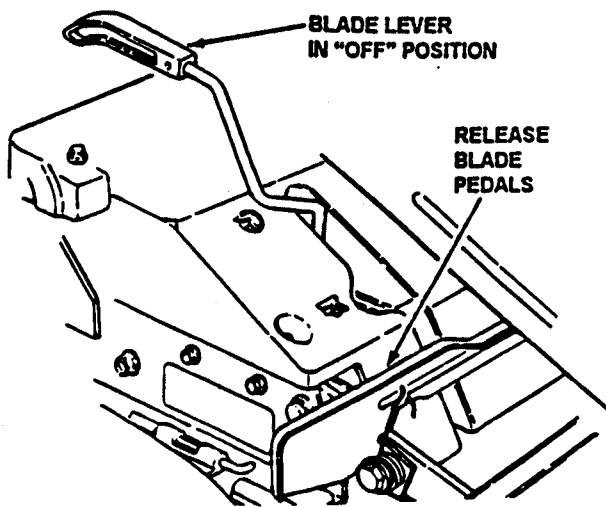
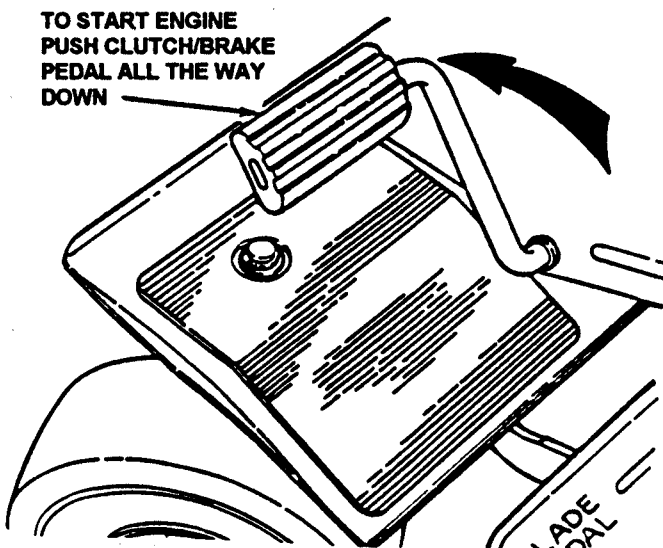

FIGURE 2.4
FIGURE 2.5
IMPORTANT: When the ignition key is turned to "START", the engine will turn over, but will not start unless the Clutch/Brake pedal is pressed all the way down (See Figure 2.5), the Blade Lever is in the "Off" position (See Figure 2.4). The operator should be in the seat. Start engine as follows:
2. Make certain the Blade Lever is in the "Off" position. See Figure 2.4.
3. Press Clutch/Brake Pedal all the way down and hold while starting engine. See Figure 2.5.
IMPORTANT: When the ignition key is turned to "RUN", and the recoil handle is pulled, the engine will turn over, but will not start unless the Clutch/Brake Pedal is pressed all the way down with Parking Brake engaged (See Figures 2.5 & 2.8) and the Blade Lever is in the "Off" position (See Figure 2.4). Start engine as follows: